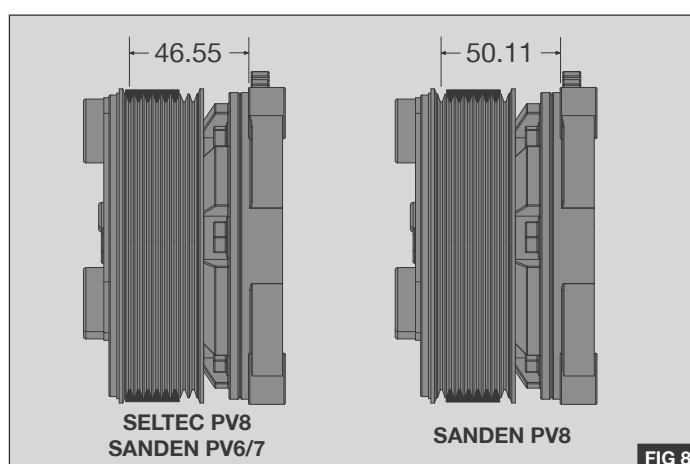

FIG 8
**NB:** Where applicable and dependent on the compressor model, align the supplied drive belt by installing in the correct clutch groove - Fig.8 Seltec PV8 has the same gauge line (46.55) as the Sanden PV6 & PV7, belt is fitted to front groove.